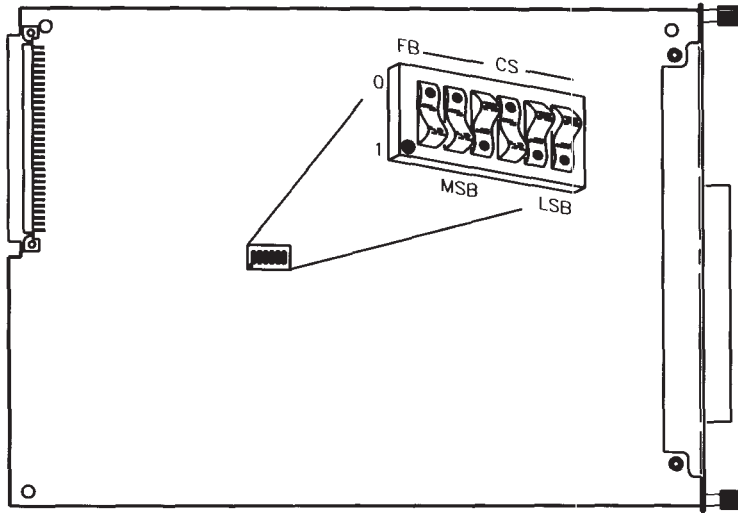

Figure 5-41.
If this is the first (or only) LGB card you are installing and you want to use the Graphics Display Station as the system console, you can skip to step 3. Your LGB interface card has been preset to an internal addressing mode (as shown in Figure 5-40 and Figure 5-41).
- a. Find the set of six switches labeled “SW1” on the HP 98724A/25A interface card (see Figure 5-40 and Figure 5-41). The switch labeled “FB” determines the Frame Buffer address, and the other five switches labeled “CS” (for Control Space) determine the interface’s select code.